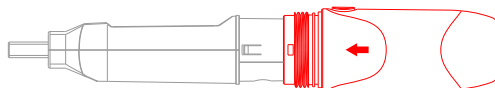

Fig.24
Step 5. Adjust the button and the internal light pipe to the same side; snap the compartment shut. See Fig. 24.